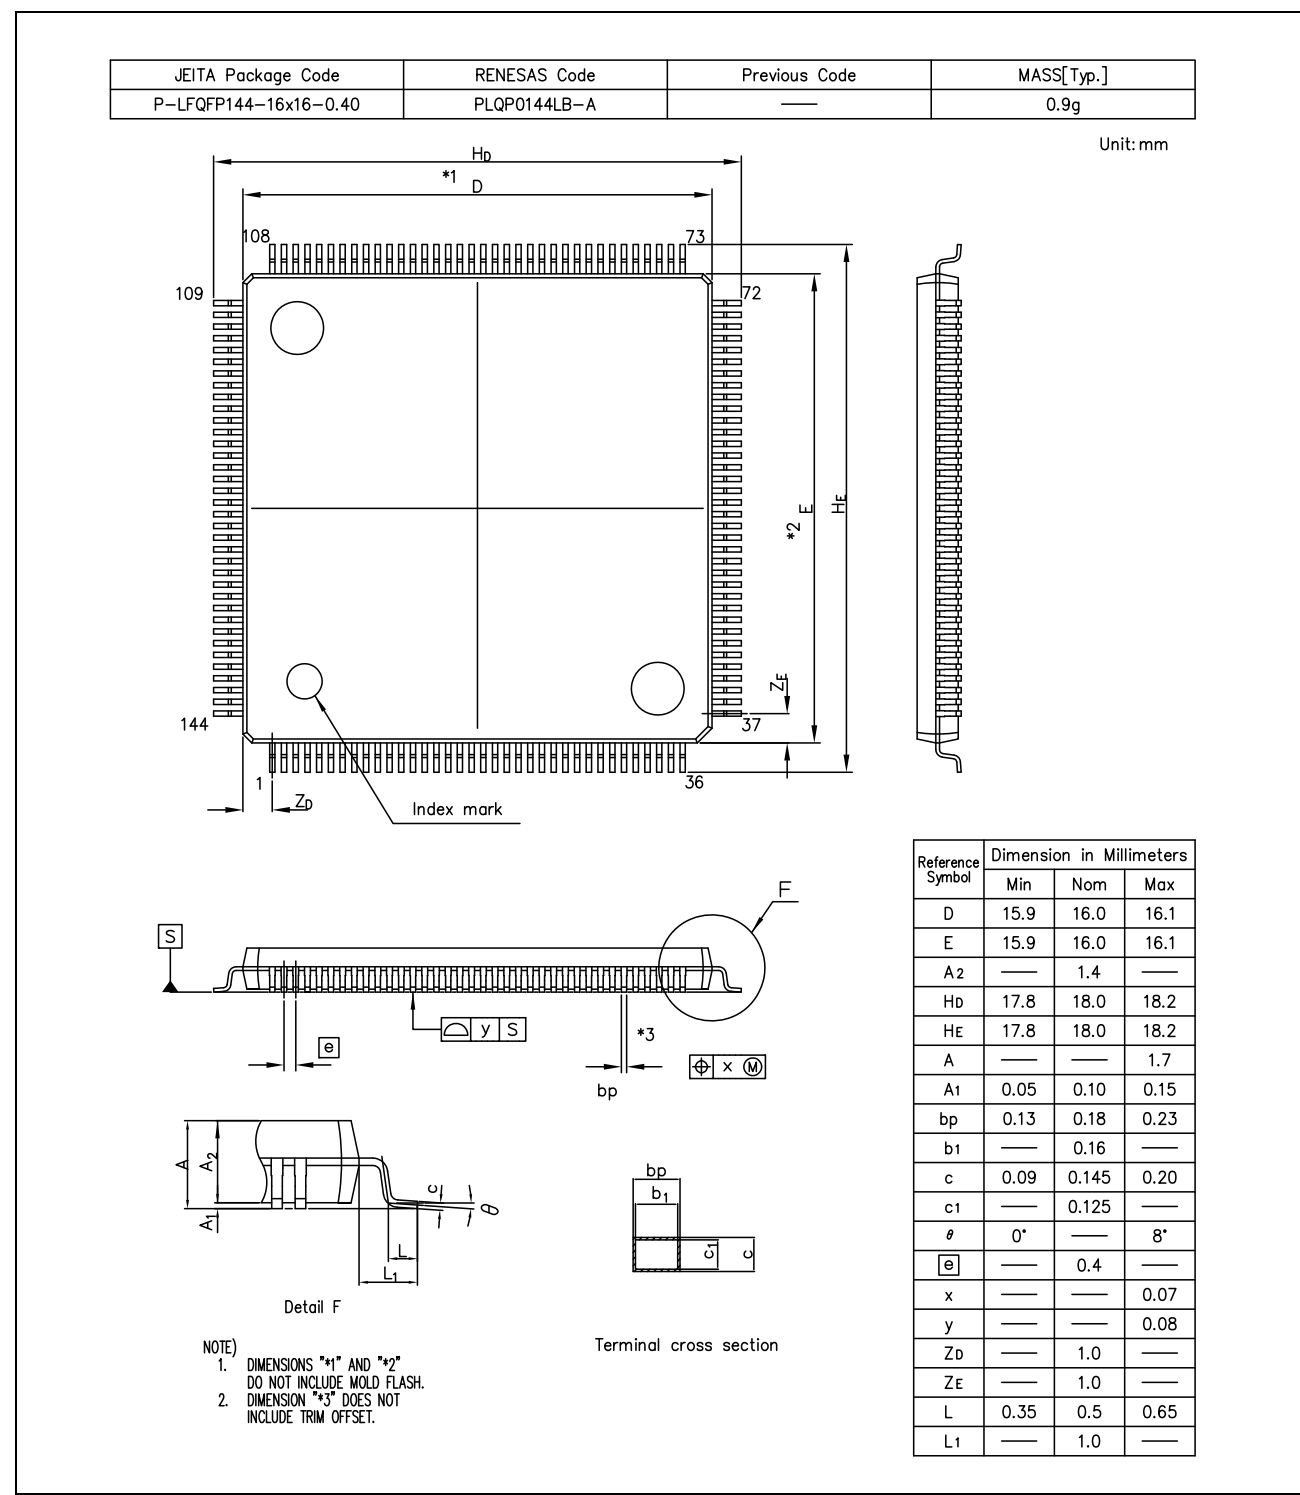

Figure 4.1 LQFP outline
- Figure 4.1 shows LQFP outline.